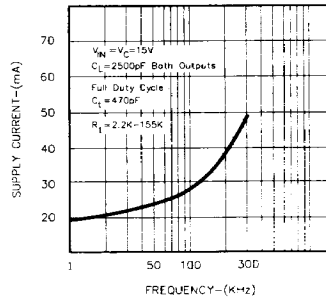

FIGURE 14.
2. If more dead time is required, select a larger value of  $R_D$  using Figure 14 as a guide. At 40 KHz dead time increases by 300 ns/ $\Omega$ .